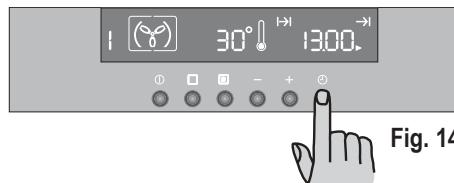

Fig. 14
- 2) Press button ① until the "End of Cooking" function → is selected and the relevant symbol flashes. The control panel will display the end of cooking time (that is, the actual time + cooking duration time - Fig. 14).